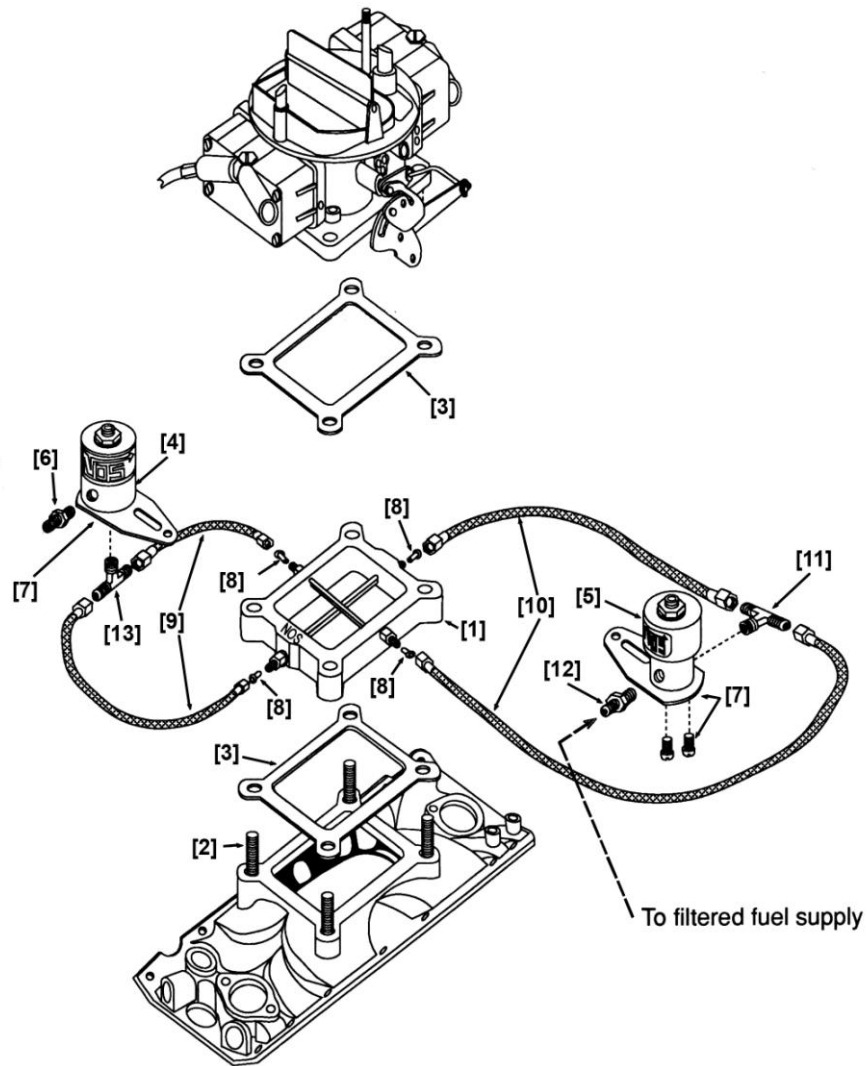

Figure 2 Cross Hair Plate System Kits 02153NOS & 02154NOS—Assembly Drawing
6. Install the extended carburetor studs (2).
7. Install the injector plate (1) and gaskets (3) on the intake manifold with “**THIS SIDE UP**” facing up and forward. See Figure 2 for the illustration of the part installation. This places the fuel inlets on the plate towards the front and driver’s side of the vehicle for the 4500 flange plates and the fuel ports to the driver’s side and rear for the 4150 flange plates.
Use the following procedure to install the nitrous solenoid (4) and fuel solenoid (5). See Figure 2 for the illustration of the part installation.